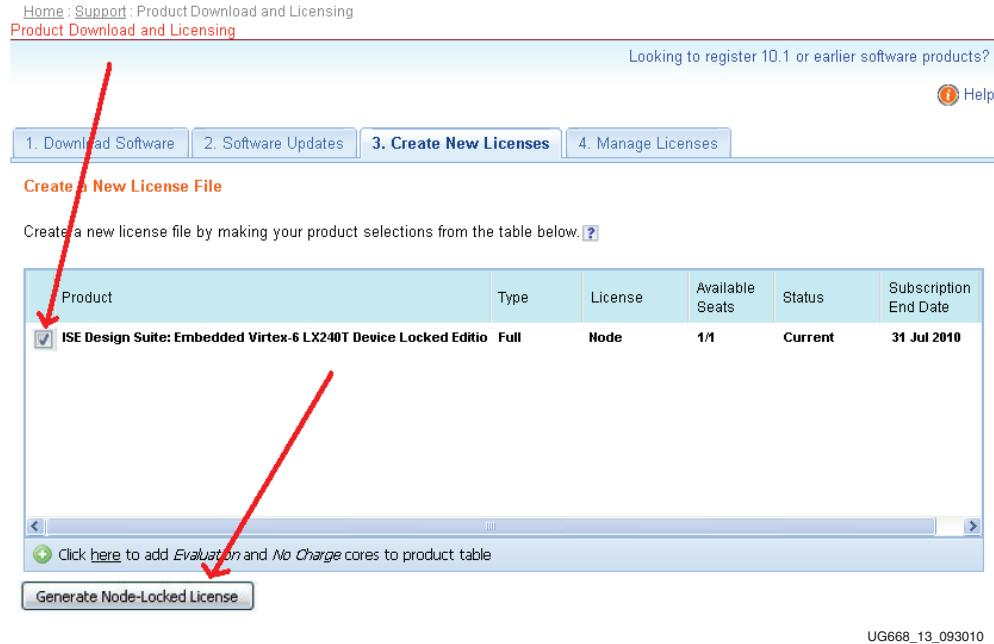

Figure 13: Xilinx Entitlement Center
5. Check the product **ISE Design Suite Embedded Virtex-6 LX240T Device Locked Edition** and click on **Generate Node-Locked License** as shown in Figure 13.